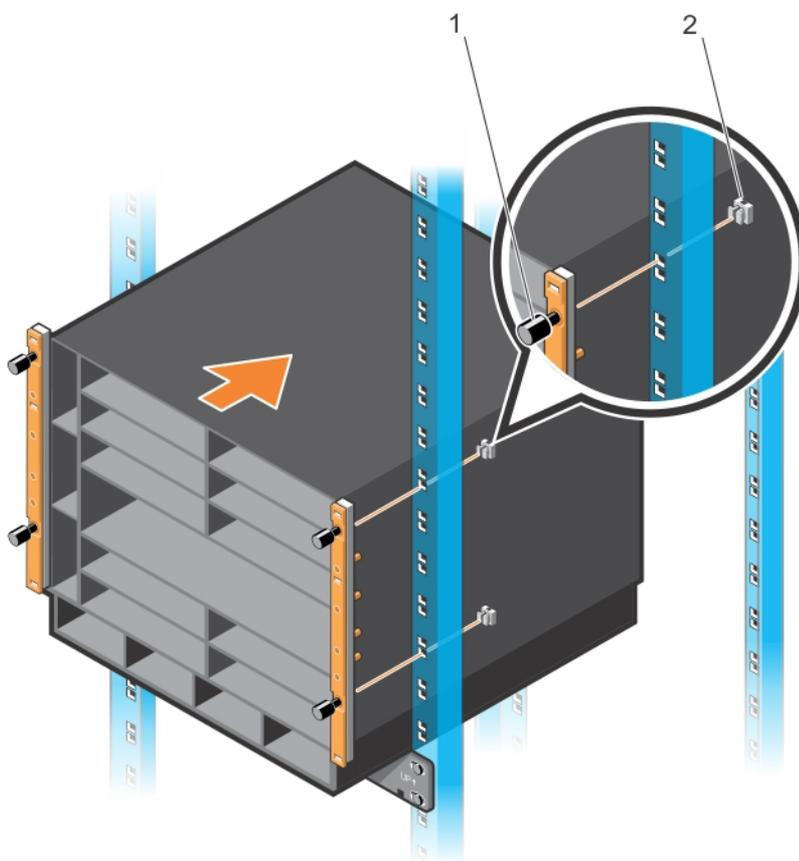

Figure 8. Aligning Rack-Mount Holes with 4-Post Rack Holes
- 5 Use two people or an equipment lift to align the chassis rack-mount holes with the cage nuts in the front posts (items 1 and 2 in Figure 8). Rest the chassis on top of the rack bar (or rack tray or ReadyRails, if installed).